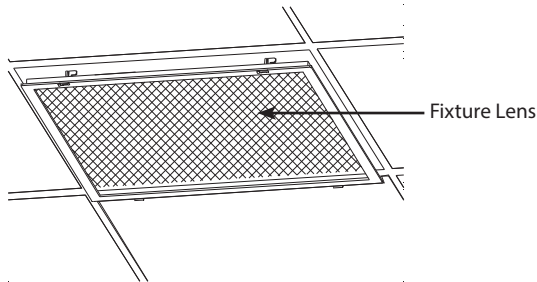

Fig: 2
3. Remove the old **Fluorescent Tubes** as shown in Fig. 2.